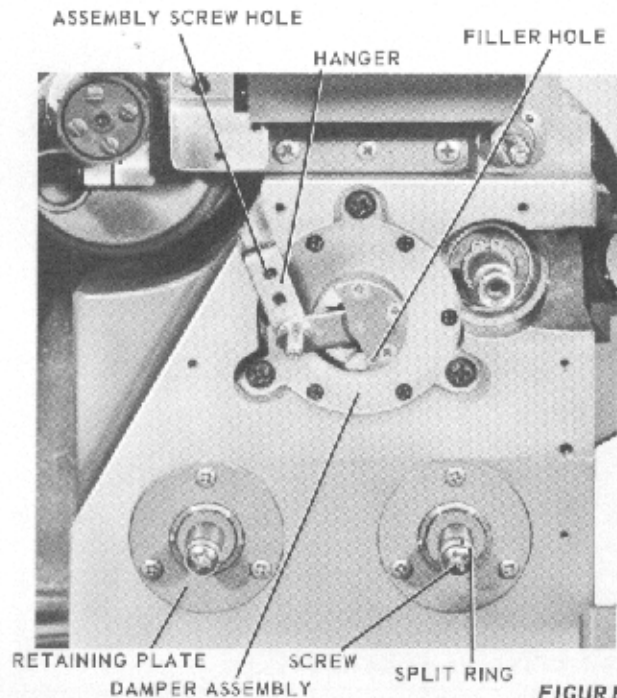
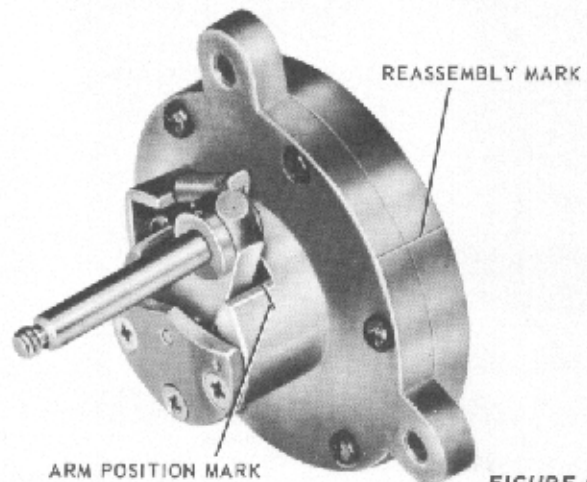
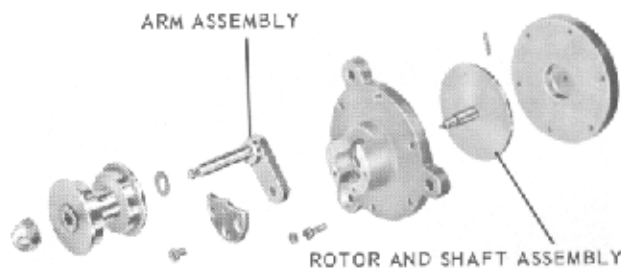
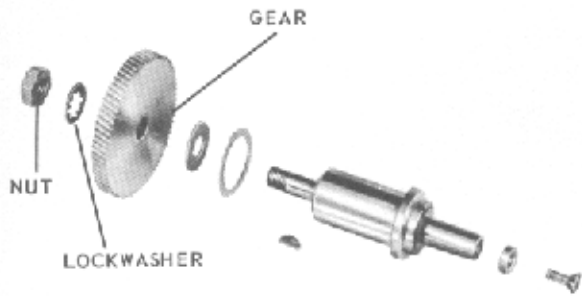

FIGURE 5
FIGURE 6
FIGURE 7
FIGURE 25
h. Remove the three screws and the DAMPER ASSEMBLY, figure 5. Before disassembling the damper assembly, mark the front and back housing and indicate the arm position in relation to the casting, figure 6. Disassemble the damper assembly as shown in figure 7.
cover, gasket, and mechanism housing are shown in figure 24. The SOUND, SUPPLY, and HOLDBACK SPROCKET GEARS and shaft assemblies can be removed from the mechanism housing by first removing the NUTS, LOCKWASHERS, and GEARS, figure 25; and then the RETAINING PLATES, figure 5. Component parts are shown in figure 25.